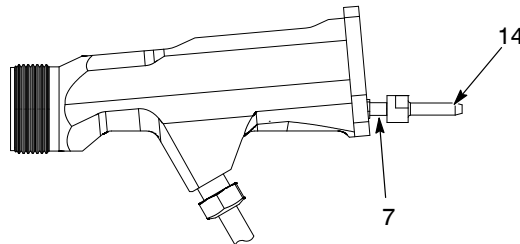

Figure 7-5 Packing Cartridge Replacement – Removing Trigger Puller
1. See Figure 7-5. Hold the pull shaft (7) with pliers while unscrewing the trigger puller (14).
7. Coat the inside diameter of the packing cartridge retainer (9) and the end of the pull shaft (8) with MagnaLube-G or equivalent lubricant.
10. See Figure 7-5. Apply a removeable threadlocking adhesive (Loctite 242 or equivalent) to the threads of the pull shaft and screw the trigger puller (14) onto the pull shaft.